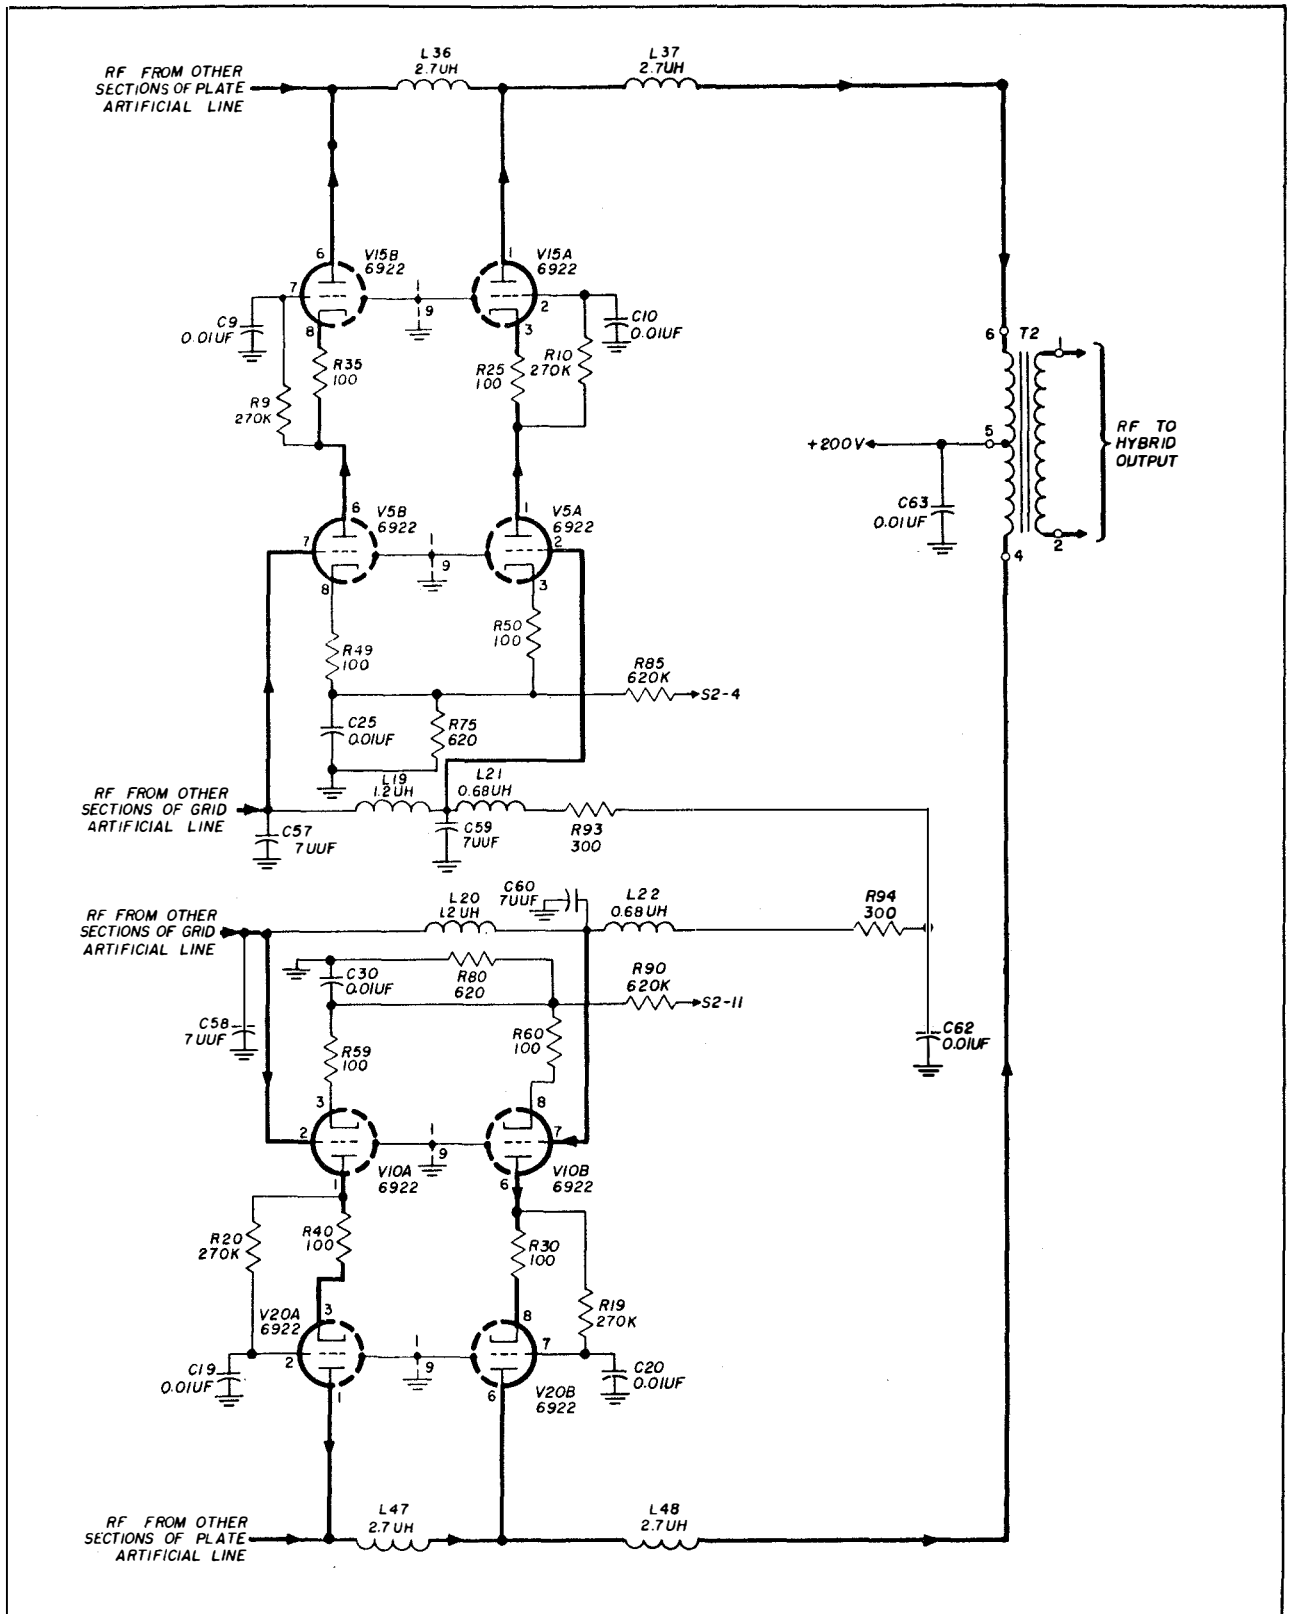

Figure 4-2. Antenna Coupler CU-656/U, Distributed Amplifier
c. Since the circuits of the five push-pull distributed amplifier sections shown in figure 6-1 are identical, only the section consisting of tubes V5, V15, V10, V20 and their associated circuits will be discussed. A simplified schematic of the fifth section of the distributed amplifier is shown in figure 4-2.